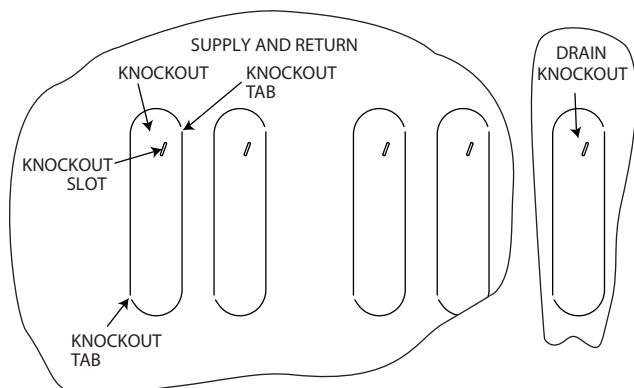

Fig. 18 — Remove 42SU Unit Knockouts
3. Insert a flat head screw driver into knockout slot shown in Fig. 18.